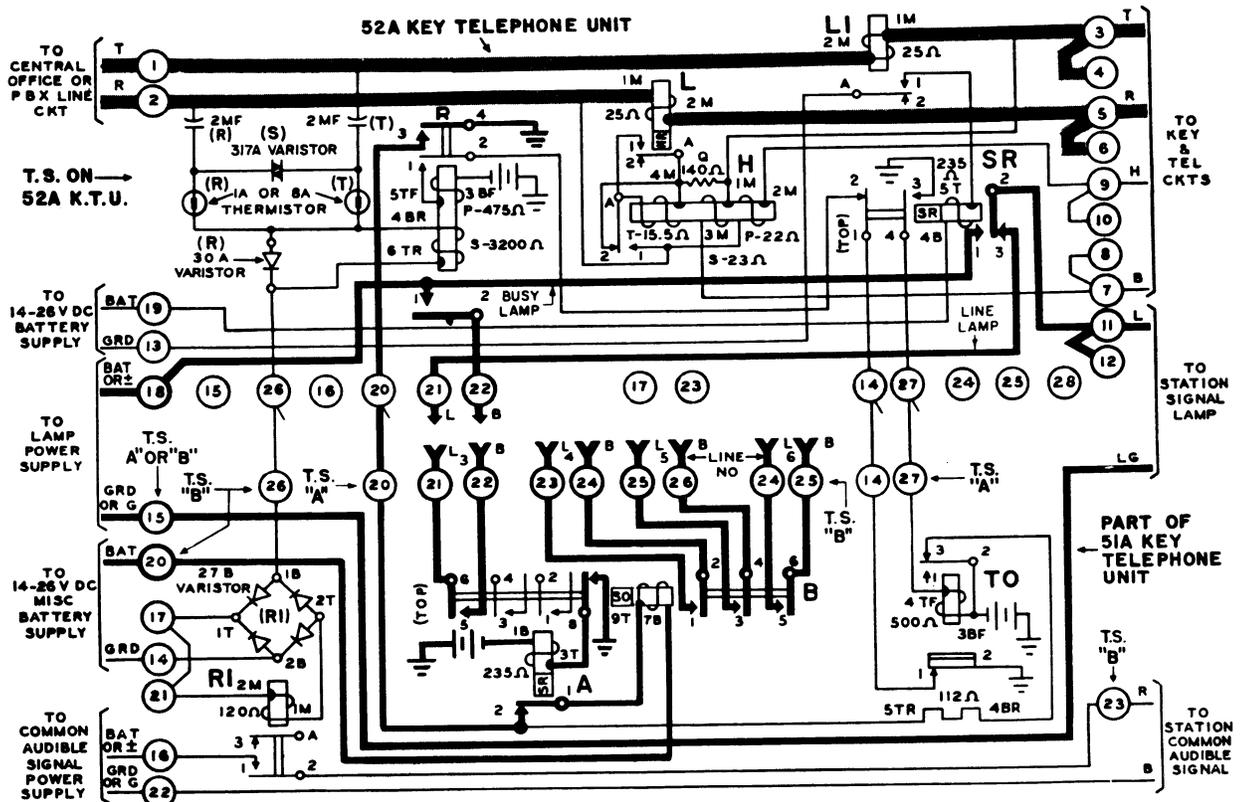

Fig. 6 Combined Line and Busy Lamp Circuits - 52AKTU
- (f) Fig. 6 Combined Line and Busy Lamp Circuit for 52A KTU.